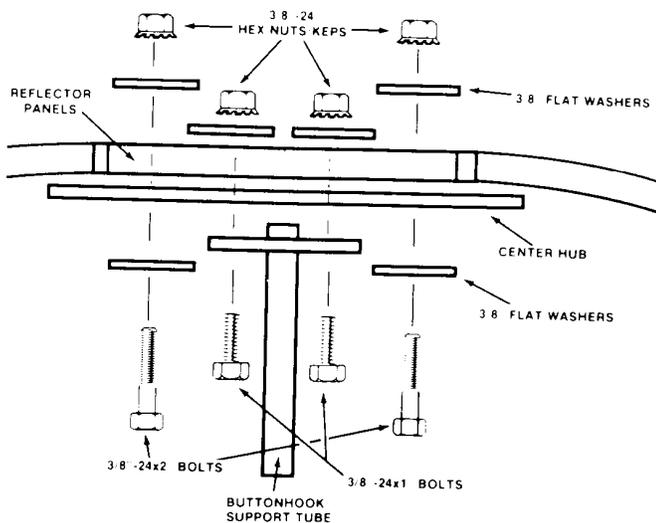

FIGURE 4
STEP 3: Attach center support plate to one half of reflector assembly with (2) 3/8"-24x2" bolts. Use flat washers on both sides and secure with hex nuts. See Figure 4.
STEP 5: If using a quad feed support, install the 1-1/2" plastic plug in center hole. If using a buttonhook feed support, attach the buttonhook support tube to the center plate with (4) 3/8"-24x1" bolts. Tighten securely. See Figure 4.